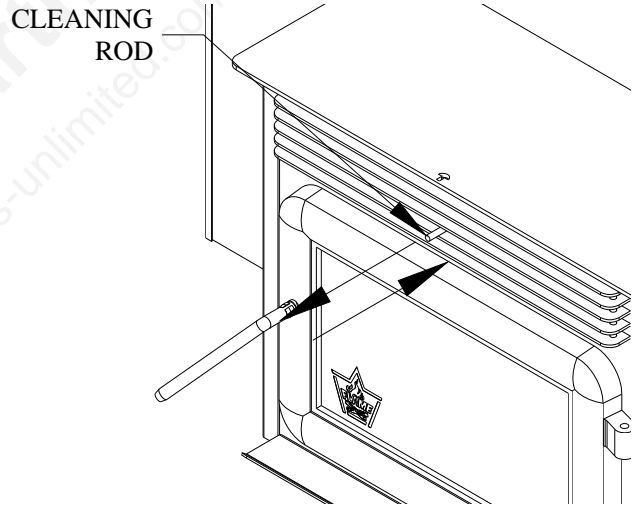

Figure 40
- With the door closed, clean heat exchanger tubes by sliding the cleaning rod back and forth. (see Figure 40).
- Heat Exchange Tubes** – Your FP-35 stove is designed with a built-in heat exchanger tube cleaner. This should be used weekly to remove accumulated ash on the tubes. Slide the cleaning rod back and forth two or three times from front to back (refer to figure 40). When finished, push the cleaning rod back in, behind the louvers.